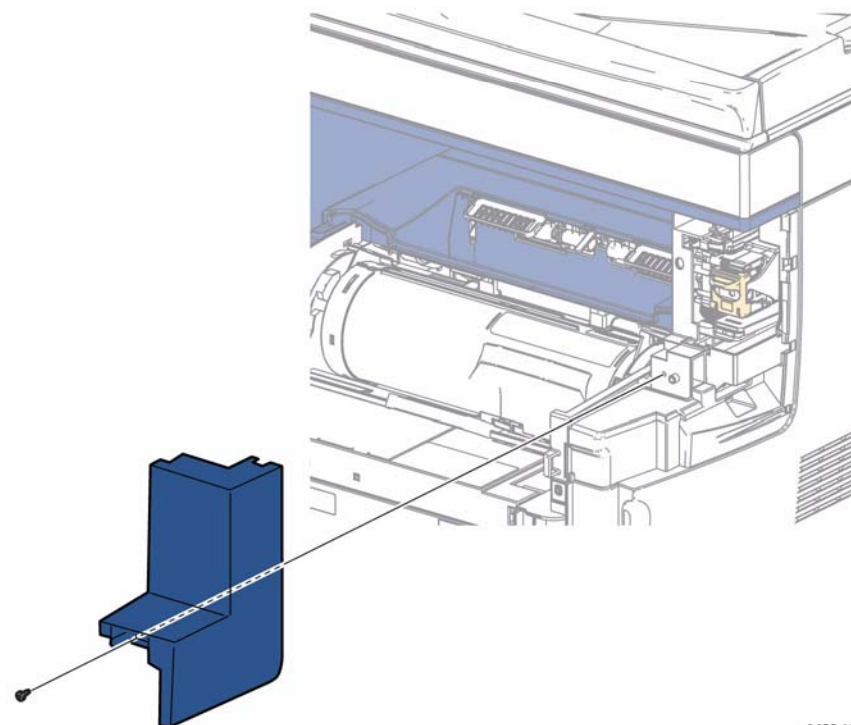

Figure 1 Remove Outer Right Cover
2. Refer to Figure 1 to locate and remove 1 screw (silver, tapping, 8mm) and release 1 hook at the top to remove the Outer Right Cover.